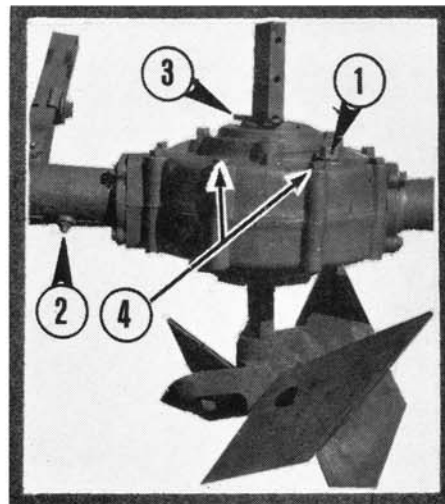

Figure 25
The Rotary Plow is attached to the Tractor by four bolts. Two bolts must be used to attach the Angle Adjusting Bracket, upper left in Figure 25.
Add oil by removing the Oil Filler Plug, 1 in Figure 25.
Use an occasional shot of Mobilgrease MP in the swivel casting grease fitting, 2 in Figure 25.
Use the pin or clip, 3 in Figure 25, in the Hex Shaft for initial cutting depth adjustment. The higher on the Shaft the Pin is inserted, the lower the depth of cut and vice versa. Ordinarily, the Pin is inserted in the topmost hole for plowing and in the bottom hole for transporting.
The optional (at no extra cost) Dirt Shield is attached to the top of the Gear Housing by removing the bolts, 4 in Figure 25, inserting them through the Shield, and replacing in the Gear Housing. You can use the Dirt Shield to direct the throw of the dirt, by bending it up or down.
1. Leave the Plow Angle Adjusting Assembly (upper left in Figure 25) attached.